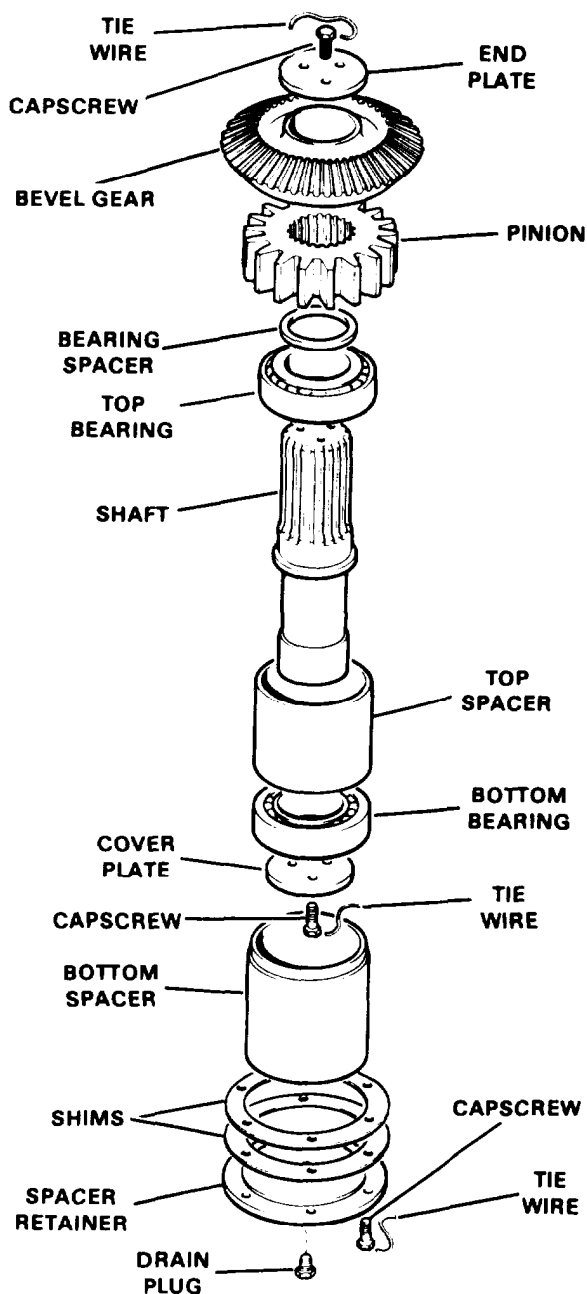

Figure 6C-1. Intermediate Swing Shaft (9210J60-3)
**REMOVAL AND DISASSEMBLY.** Disassembly is accomplished during removal. To remove the intermediate swing shaft, proceed as follows (see Figure 6C-1):
**ASSEMBLY AND INSTALLATION.** To assemble and install the intermediate swing shaft, proceed as follows (see Figure 6C-1):